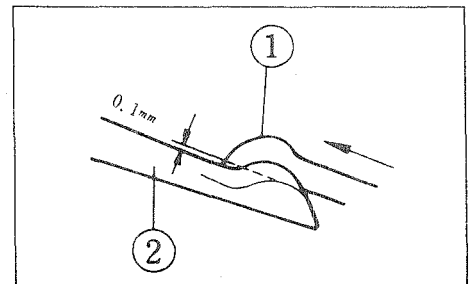

Fig. 10
- (c) Finally, confirm that lower looper ② has a clearance of about 0.1 mm at upper looper ① when the upper looper has gone up to meet the lower looper and also that the upper looper back surface does not touch the needle when it has reached the extreme left position. (Fig. 10)